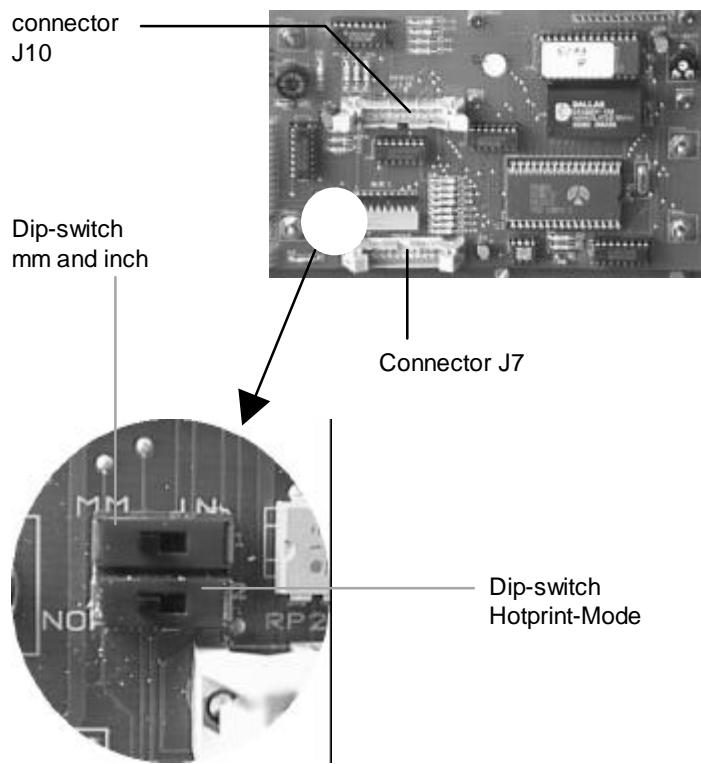

Figure 20. Setting the unit of measure
- On the rear of the control panel you will find two Dip switches next to the connector terminal J7. One is marked „mm“ and one „inch“ (Figure 20). Switch these switches to the desired unit of measure.
In order to make the Hotprint mode the standard setting proceed exactly as described above in the section entitled „Unit of measure, changing the standard setting“. See Figure 20 for the correct Dip switch.